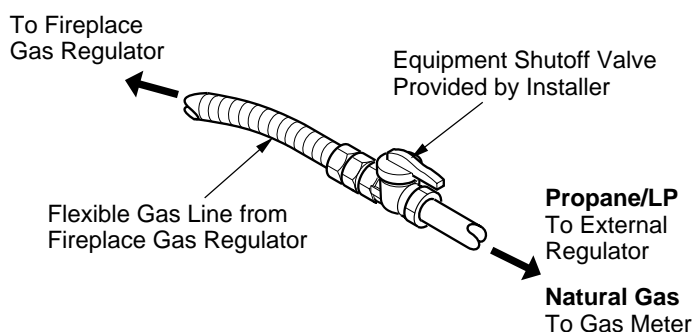

Figure 20 - Attaching Flexible Gas Lines Together
NOTICE: Most building codes do not permit concealed gas connections. A flexible gas line is provided to allow accessibility from the fireplace (see Figure 20, page 13). The flexible gas supply line connection to the equipment shutoff valve should be accessible.
- Attach the flexible gas line to gas supply (see Figure 20). Check tightness of flexible gas line attached to gas regulator of fireplace (see Figure 20).